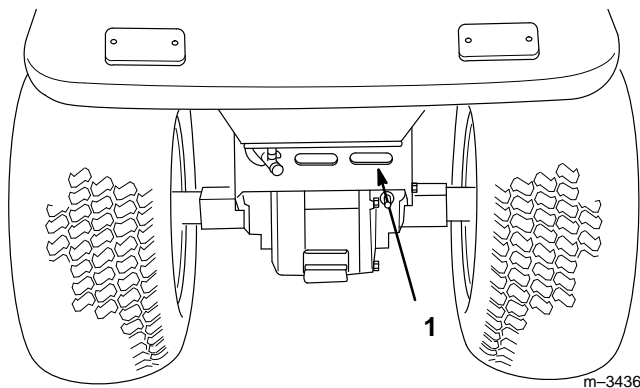

Figure 11
5. The rear transaxle cover is an air intake area for cooling the transaxle. Clean debris from the rear transaxle cover before operating the tractor (Fig. 11).